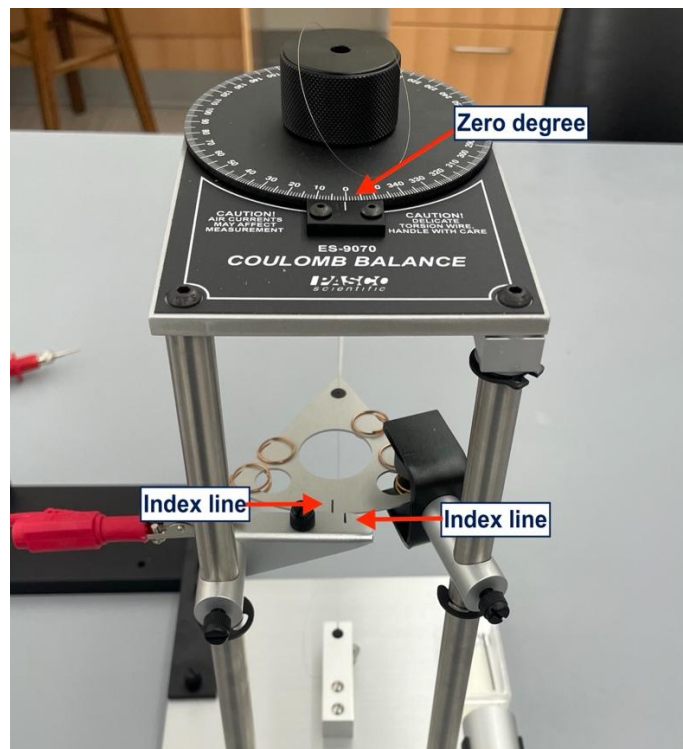

Figure 3: Calibrating torsion balance
3. If the index markings are not aligned (as in Figure 3), rotate the wire retainer at the bottom of the torsion wire, but do not loosen or tighten the thumbscrew. This will rotate the starting position of the counterweight vane.